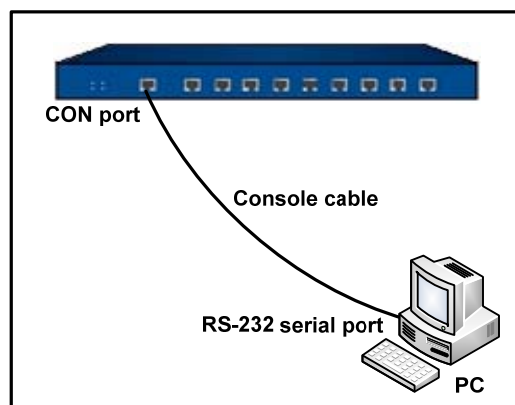

Figure 4-1: Console Port Configuration
1. Set up a local configuration environment. Connect the Console port to the serial port of a PC through a console cable, as shown in Figure 4-1: